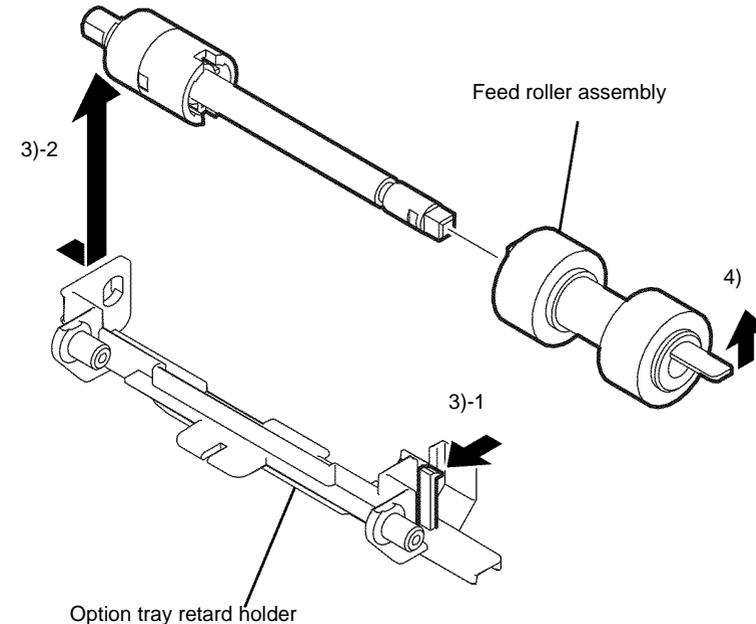

Figure 1 Feed roll assembly removal
4. Pull out the feed roll assembly while releasing the hook fixing it, Figure 1.